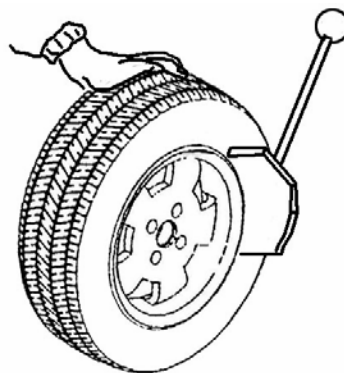

Fig.8
· Position the bead breaker blade (R) against the tire bead at distance of about 1cm from the rim (fig.8)